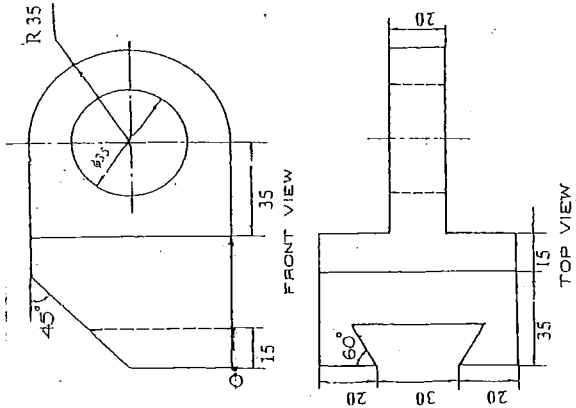

Fig. No.5 Q 4 Section II
Q.4 Top View and Front View of an object are shown in **Fig. No.5**. Draw an isometric view taking 'O' as origin. Use natural scale. (20)
Q.5 Attempt Any one of the following (10)
Q.6 Attempt Any One of the following (20)